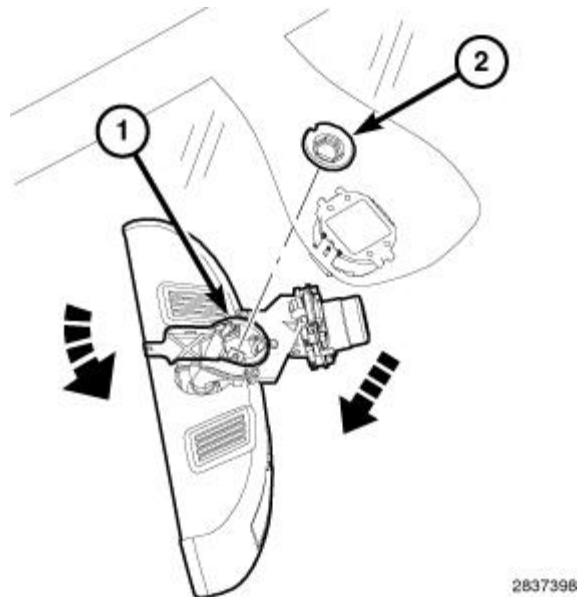

Figure 30 – Twist Mirror
60. Twist the mirror assembly (1) clockwise and release the mirror from the aluminum button (2) attached to the windshield (Figure 30).
76. Twist the mirror assembly (1) clockwise and release the mirror from the aluminum button (2) attached to the windshield (Figure 30).